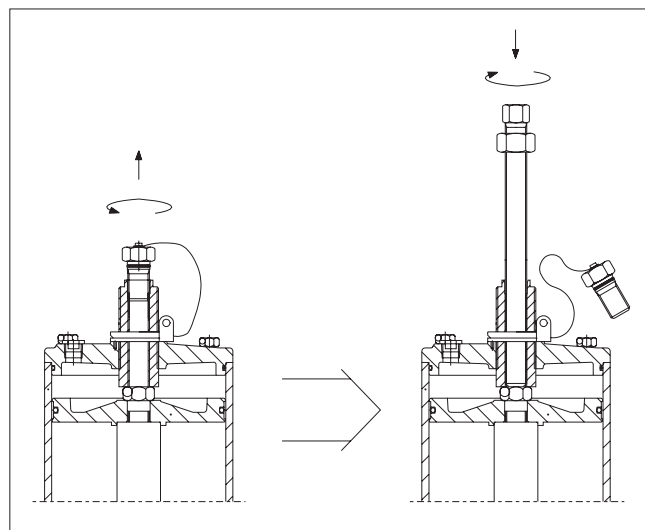

Fig. 6 Changing the plug screw (276, 277) to lock screw
- Connect air pressure and move the piston to the end position by using air pressure, see Fig. 6.
- Turn the lock screw (128, 288) clockwise again until it is tightly against the piston rod. Tighten the lock nut (282, 283), see Fig. 6. You can now release air pressure.